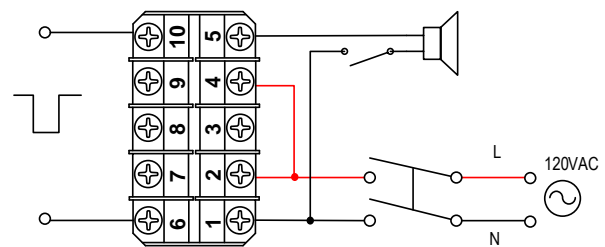

Figure 6. Rising-edge triggered signal.
b) Connecting a DC logic signal (TTL or CMOS or voltage in the range from 3 to 30 VDC) between the terminal (6, 7 or 8) to the COM (10). Please note, the function is rising-edge triggered. The logic signal should normally be at high level. The function starts when the signal goes from low to high. If you have an inverted logic signal, you need to connect a NPN transistor between terminal and COM; add 10Kohm resistor to the gate for signal input. See Figure 6.